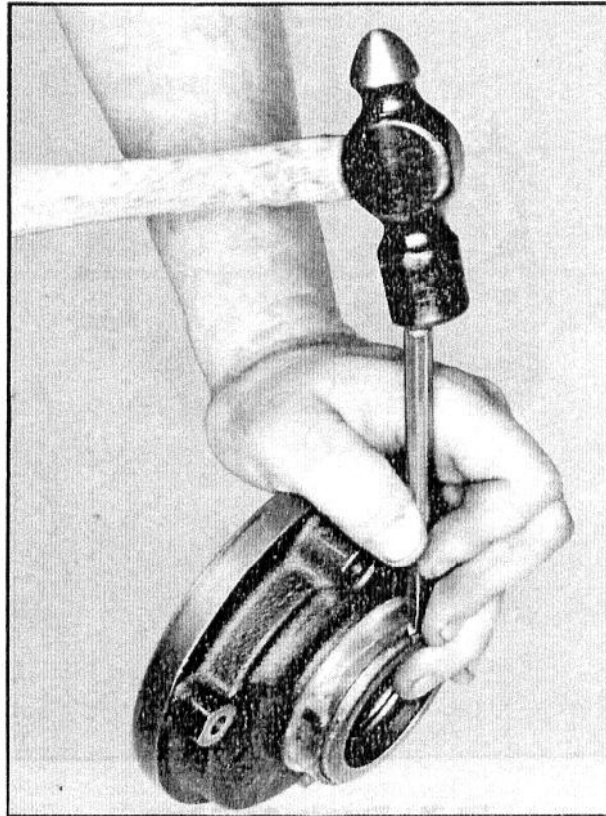

Fig. 29 - Removing Front Oil Seal
5. Remove the front seal, see Fig. 29. When installing a new seal, press the seal in until it bottoms into the shoulder of the pump body.